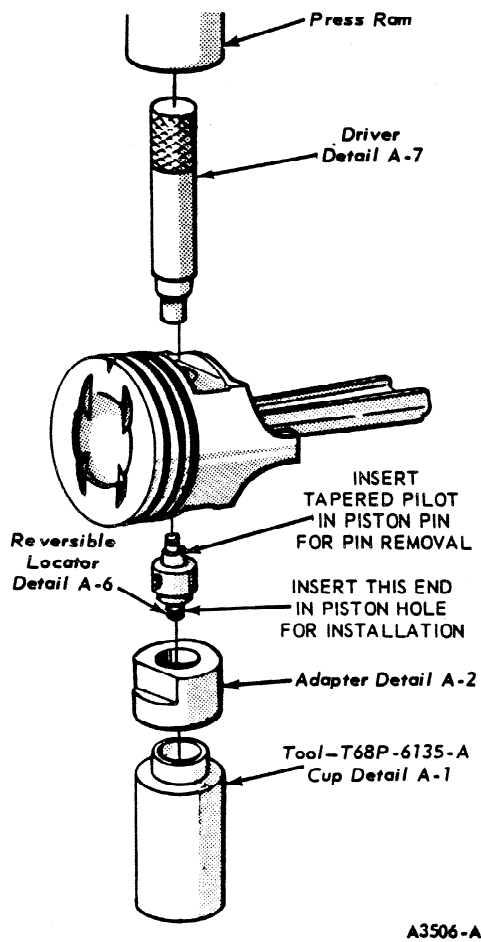

FIG. 66 Removing Piston Pin
3. Remove the piston rings. Using an arbor press and the tool shown in Figure 66, press the piston pin from the piston and connecting rod.